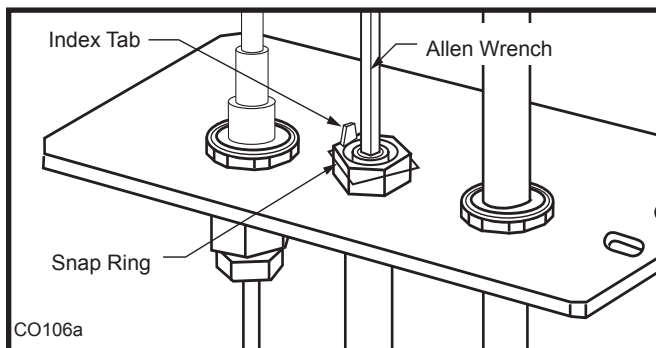

Fig. 57 Remove pilot orifice.
- Remove pilot orifice with allen wrench. (Fig. 57)